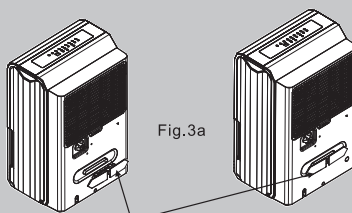

Fig.3a
4. Power cord buckle (placed in the water bucket; use only when storing the unit. Installed as shown in Fig. 3a)